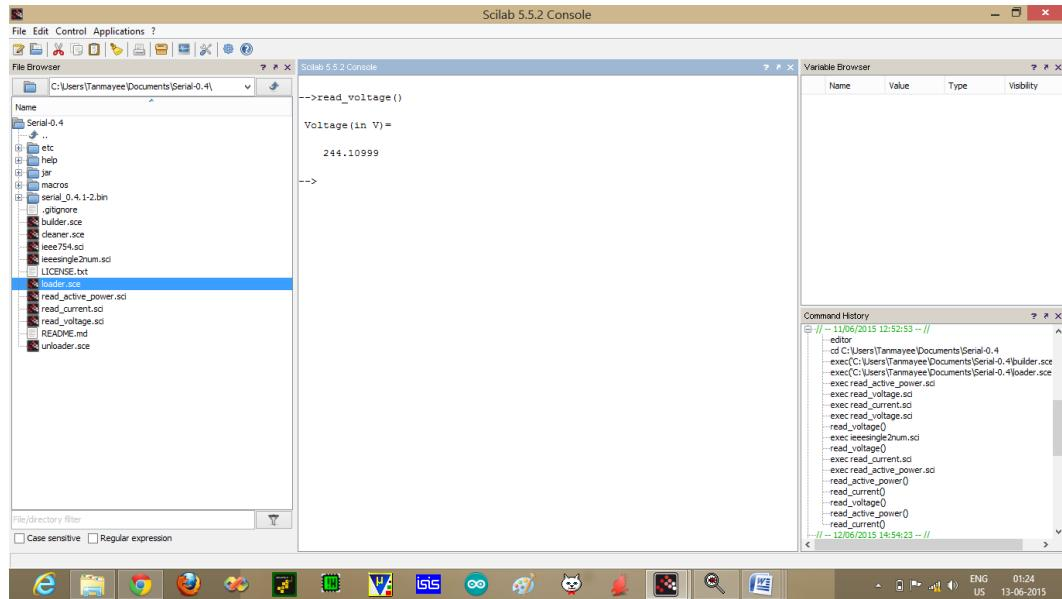

Figure 11.10: Single Phase Voltage Output on Scilab Console
- Single phase voltage output: Fig. 11.10 and Fig. 11.11 show Scilab code output of voltage in Volts and corresponding snapshot of Energy Meter display with a single load rated 60W-230V.